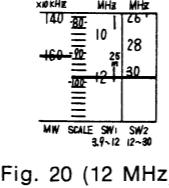

Fig. 20 (12 MHz)
| (8) | Connect to test point TP₁ through 10 PF capacitor. Common to earth. | 12 MHz | 12 MHz [Fig. 20] | " | L ₁₄ (OSC Coil) L ₅ (ANT Coil) |